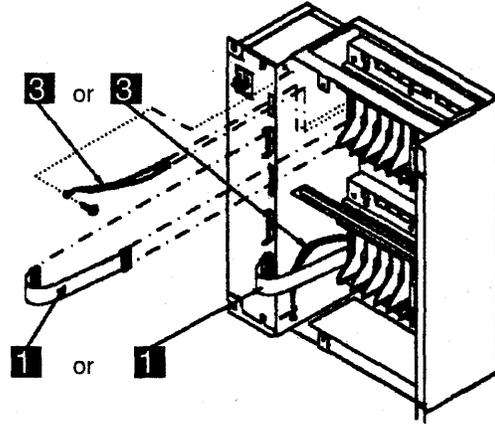
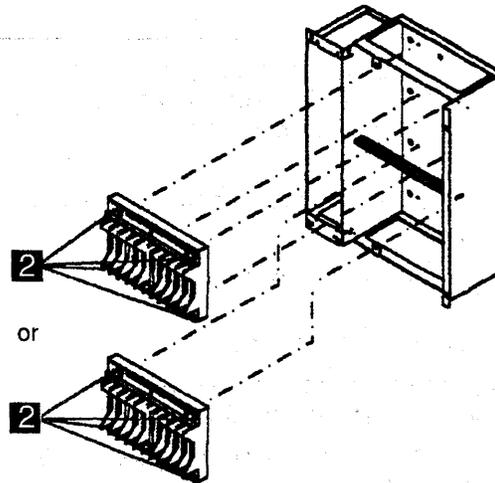

Figure 4-141. LIC Board Type 2 Enclosure Assembly
Figure 4-142. LIC Board Type 2 Assemblies
**Refer to Figure 4-141 and Figure 4-142 and do the following:**
2. Refer to Figure 4-142 on page 4-155. Mount the new board in place and secure it with the four screws **2**.
3. Refer to Figure 4-141 on page 4-155. Reconnect the flat power cable **1**.